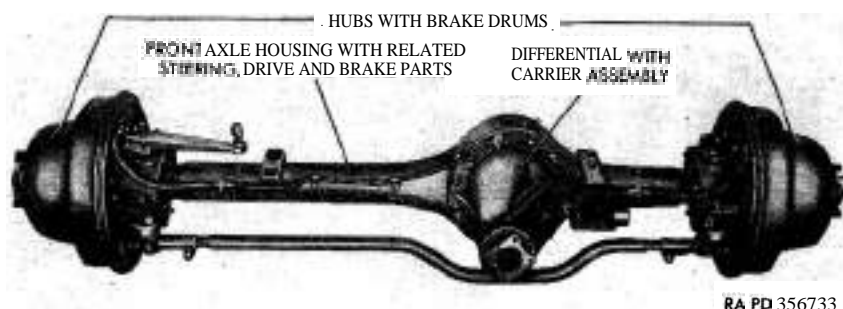

Figure 44. Front axle.
a. *Front Axle* (fig. 44). The front axle is a full-floating, driving type. It is equipped with universal drive assemblies (fig. 64), which transmit power from the differential to the front wheels without affecting customary steering.
d. *Differential With Carrier Assembly* (fig. 44). The differential with carrier assembly is a self-contained unit, which can be removed from the axle housing for service. Refer to chapter 6 for description, disassembly, inspection, and assembly procedures.
The front axle is divided into three subassemblies : hubs with brake drums, differential with carrier, and front axle housing with related steering, drive, and brake parts. The following procedures are based on the assumption that the front axle assembly (fig. 44) is removed from the vehicle. Many of the following operations can be performed with the axle assembly installed. For servicing of differential with carrier assembly, refer to chapter 6.
d. Remove Differential With Carrier Assembly. Remove drive pinion carrier stud nuts and lock washers. Remove differential with carrier assembly (fig. 44) from axle housing.